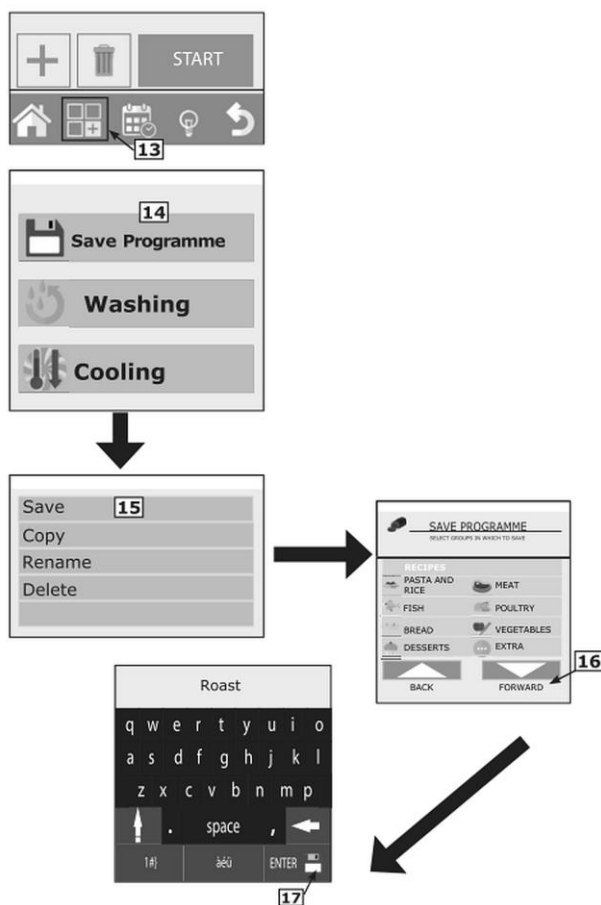

Fig. 22
- after having created a thermal processing program, press Functions key (13, Fig. 22), to access Program functions screen;
- select 'Save Program' function (key 14, Fig. 22);
- in the following screen page press 'Save' key (15, Fig. 22);
- finally, press 'Next' key (16, Fig. 22);
- press Enter key (key 17, Fig. 22), to save the thermal processing program.
3. Select the new group, in which to move the thermal processing program and confirm with 'Next' key (16, Fig. 22).